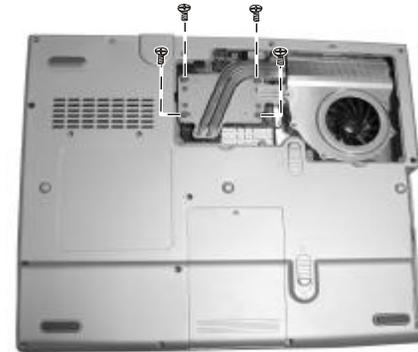

Figure 2-7 Remove the heatsink compartment cover
4. Remove four spring screws fastening the heatsink. (Figure 2-7)